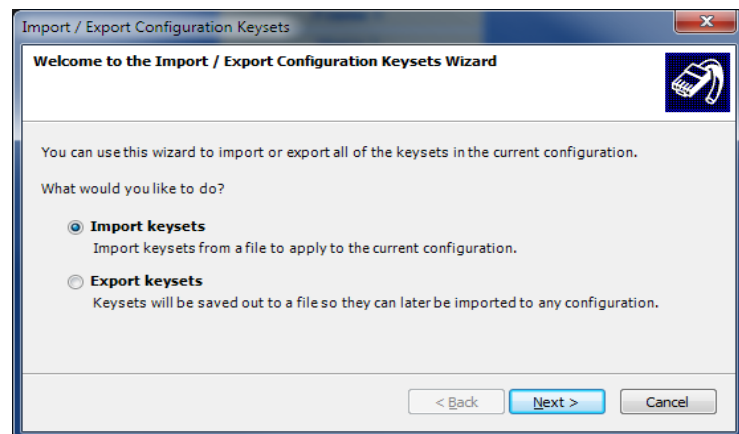

Figure 4-4: Import and Export Configuration Keysets Dialog
2. The welcome screen of the wizard is displayed. Select **Export keysets** (see Figure 4-4).